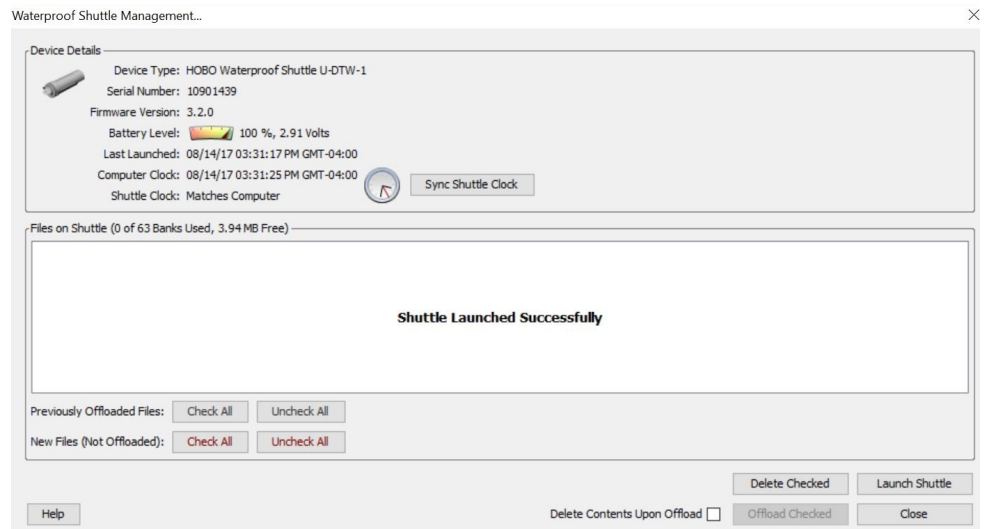

Figure 47: Shuttle success window
6. The shuttle should now be launched, which means you can unplug it from the computer (Fig. 47).